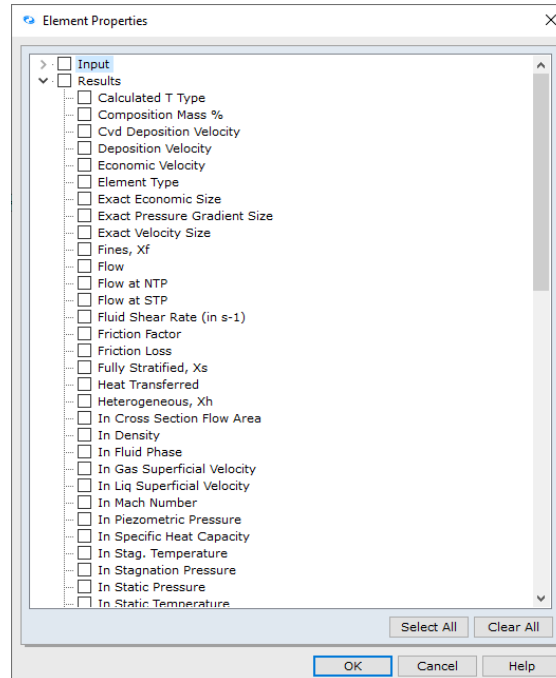

Figure 38: Element Properties Dialogue Box.
45. Now we will select the field titled *Properties* from the Input list. An *Element Properties* dialogue box will appear (Figure 38):